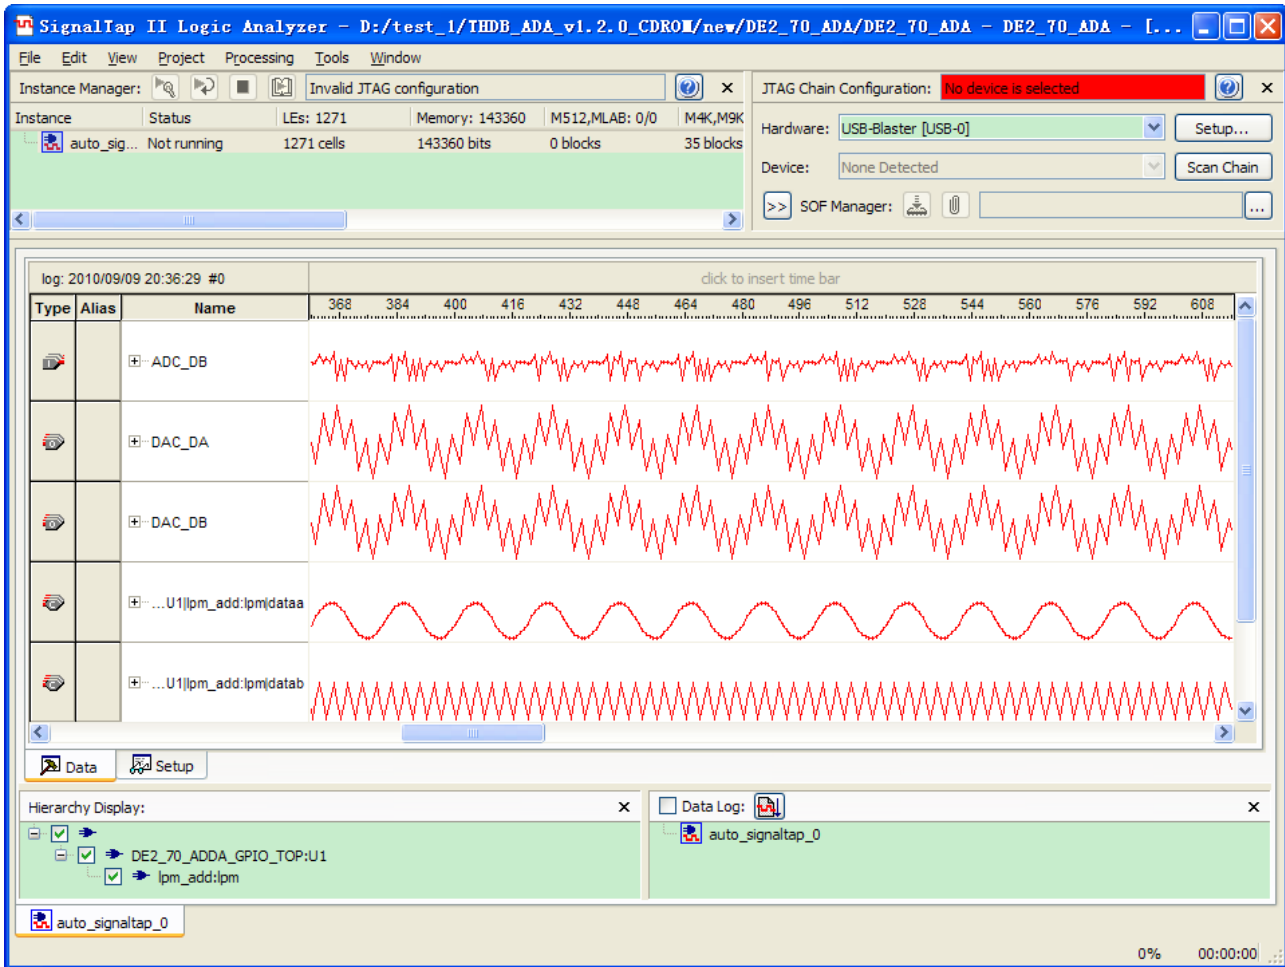

Figure 4-4 Connect ADA-GPIO with DE2-70
6. Open stp1.stp from <path>\Demonstrations\DE2_70_ADA, as shown in Figure 4-4.